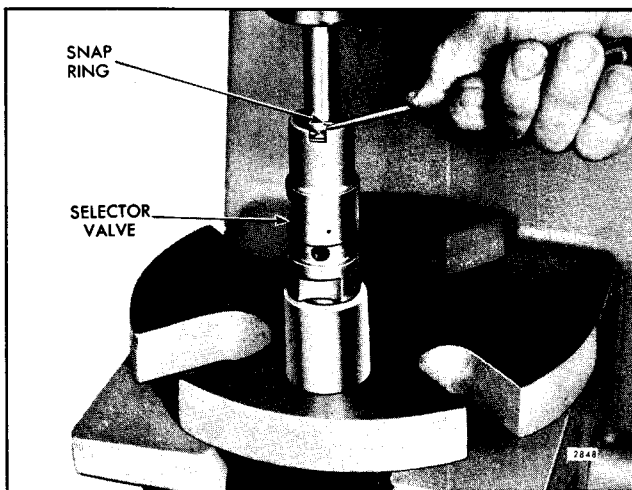

Fig. 20 · Removing Snap Ring from Selector Valve
- d. Place a 3/4" diameter x 2" long round steel rod on top of the valve spring retainer and under the ram of an arbor press as shown in Fig. 20.
- e. Compress the regulator valve spring just enough to permit removal of the snap ring. With the spring compressed, remove the snap ring from the groove inside of the selector valve with a small screw driver as shown in Fig. 20.